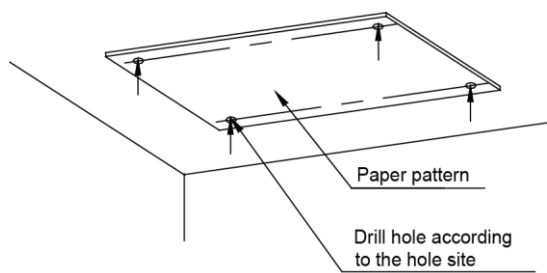
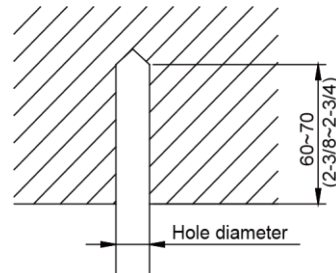

Fig. 4.1.2
Fig. 4.1.3
- 1) Stick the reference cardboard on the installation position; drill 4 holes according to the hole site on the cardboard as shown in fig. 4.1.2; diameter of drilling hole is according to the diameter of expansion bolt and the depth is 60-70mm(2-3/8~2-3/4 in.), as shown in fig. 4.1.3.